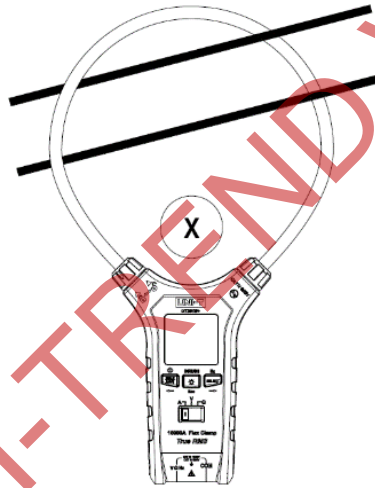

Figure 4.3
- 3) The meter can only measure one current conductor at a time, if two or more current conductors are measured at the same time, the measurement reading is wrong. (See Figure 4.3)